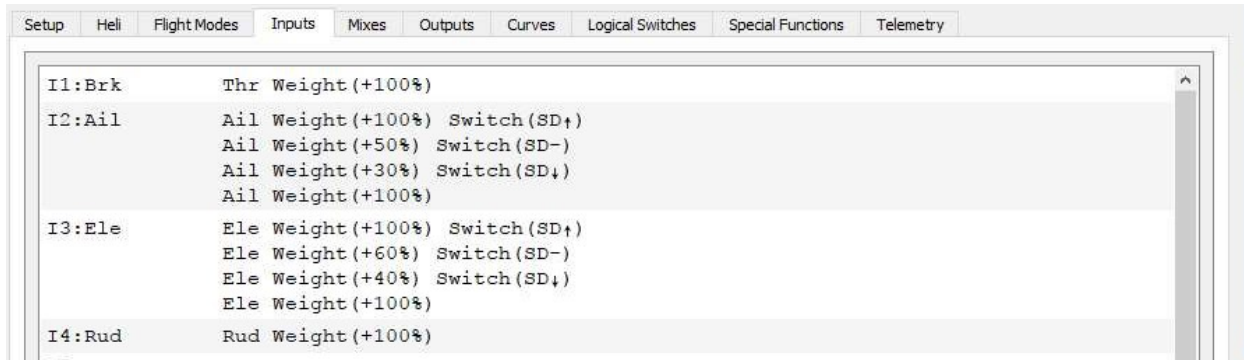

Figure 10.3.1c – Three Level Rates Using Switch D
Once all the lines are added, the programming is as Fig. 10.3.1c. In this example both aileron and elevator rates are selected by one switch (SD), but each channel could have a separate switch. Note the 'catch-all' line on I2 and I3.